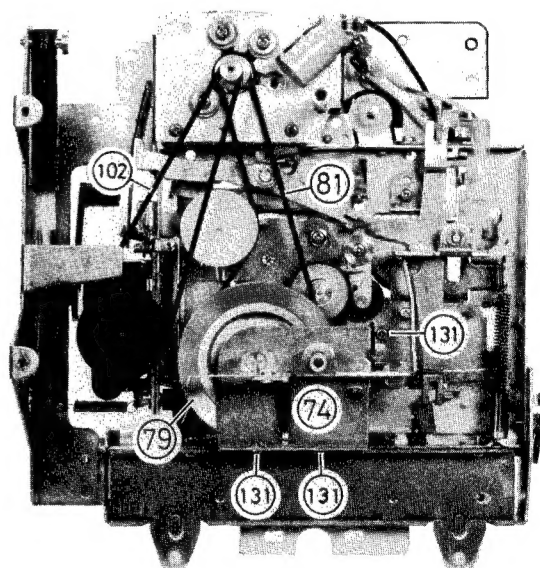

Fig. 22
G. Capstan Belt (81) (Refer to Fig. 22)
1. Remove the flywheel holder (74) by removing 3 screws (131).
2. Detouch the shut-off belt (102).
H. Flywheel (79) (Refer to Fig. 22)